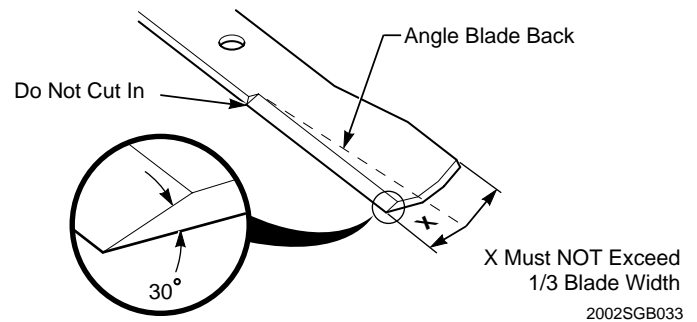

Figure 7-8 Blade Sharpening
1. Sharpen the cutting edge at the same bevel as the original. See Figure 7-8. Sharpen only the top of the cutting edge to maintain sharpness.